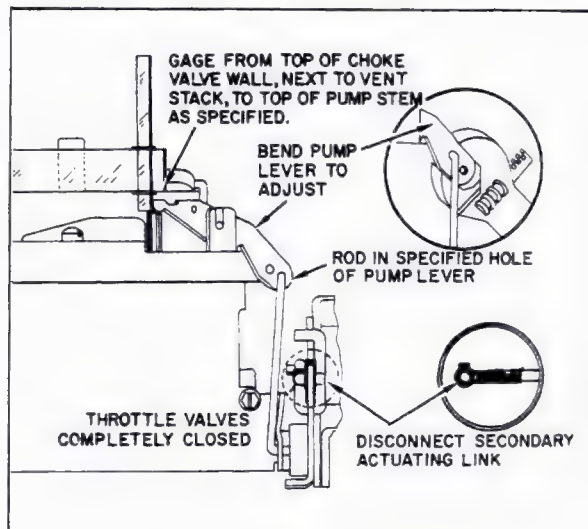

Fig. 6-78 Accelerator Pump Adjustment
### 81. Pump Rod Adjustment (Fig. 6-78)
2. Dimension should be 11/32 inch. Bend pump lever at the pump stem end, Fig. 6-78 to adjust.